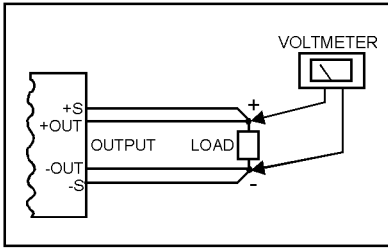

Figure 1. Measuring Regulation
5.1 Line and load regulation should be checked with the connections shown in Figure 1. Loads should be applied to all outputs and the applicable sense leads should be connected with proper polarity to the load points. Voltages should be measured at the sense leads at the load points.